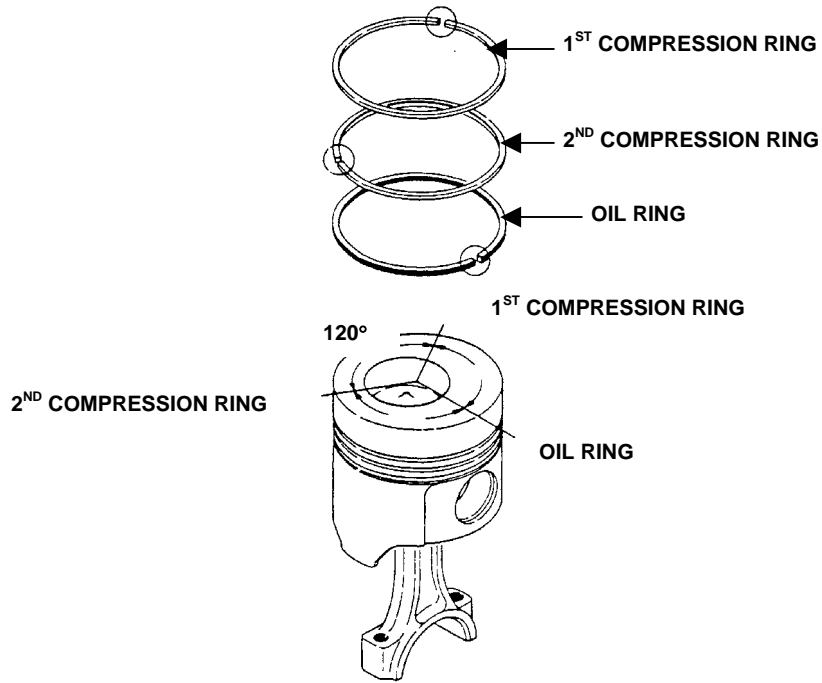

Figure 7. Piston Ring Orientation.
- d. Ensure piston ring gaps are 120° apart. See Figure 7.